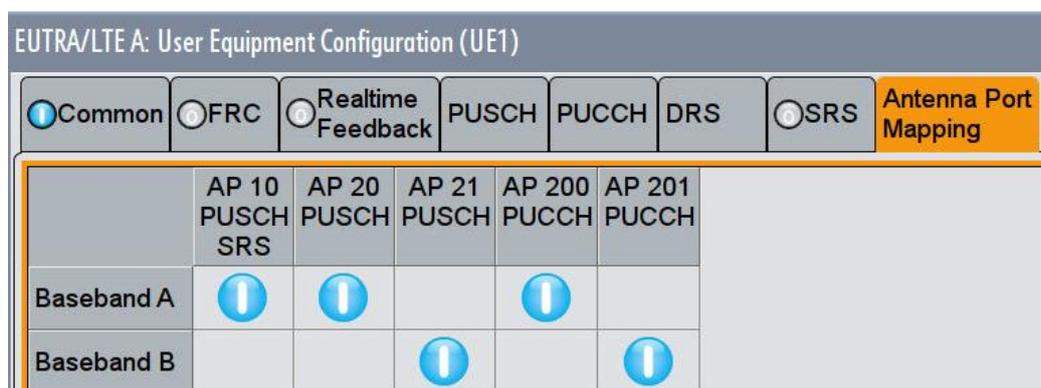

Fig. 3-146: The antenna port mapping. The PUCCH AP200 is generated by BB A, the AP201 by BB B
5. Check the antenna port mapping (Fig. 3-146)